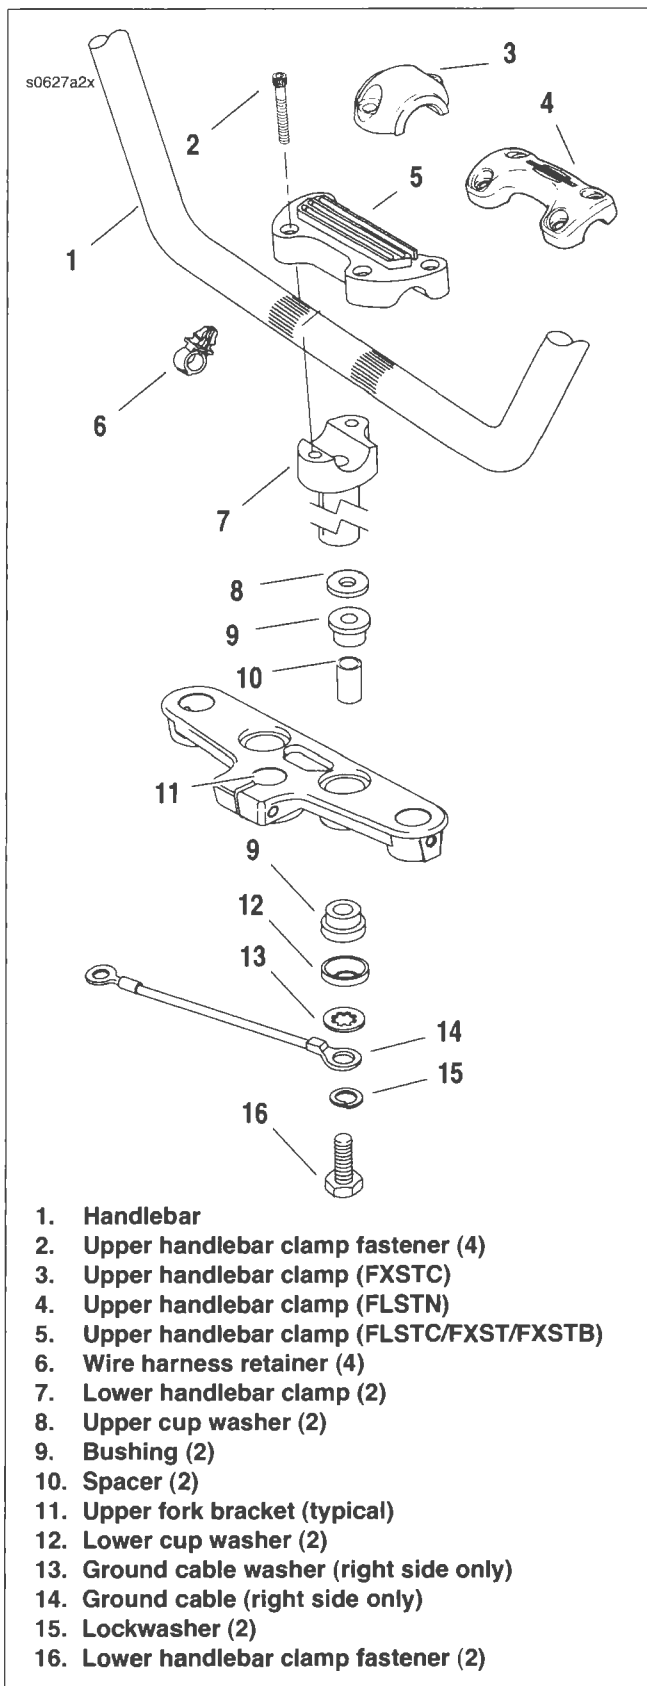

Figure 2-114. Handlebars: All but FXSTD, FLSTSC
8. See Figure 2-114. Remove upper handlebar clamp fasteners (2).
- a. For FLSTC/FLSTF/FXST/FXSTB models, remove upper handlebar clamp (5).
- b. For FLSTN models, remove upper handlebar clamp (4).
- c. For FXSTC models, remove upper handlebar clamp (3).
9. Remove handlebar (1).
10. If removing lower handlebar clamps (7), remove two lower handlebar clamp fasteners (16), lockwashers (15), ground cable (14) and ground cable washer (13) and lower handlebar clamps from upper fork bracket (11). Replace bushings (9) if necessary.
8. See Figure 2-114. Remove upper handlebar clamp fasteners. Remove upper handlebar clamps and handlebar.
9. If removing lower handlebar clamps (6), remove two bolts (16), washers (15) and lower handlebar clamps from upper fork bracket.
1. See Figure 2-114. If lower handlebar clamps (7) were removed, install lockwashers (15) on lower handlebar clamp fasteners (16). Install ground cable (14) and ground cable washer (13) on right-side fastener.
- a. Tighten two front screws (4).
- b. Tighten rear fasteners (3) to 12-15 ft-lbs (16.3-20.3 Nm).
8. See Figure 2-114. Tighten lower handlebar clamp fasteners (16) to 30-40 ft-lbs (40.7-54.3 Nm).